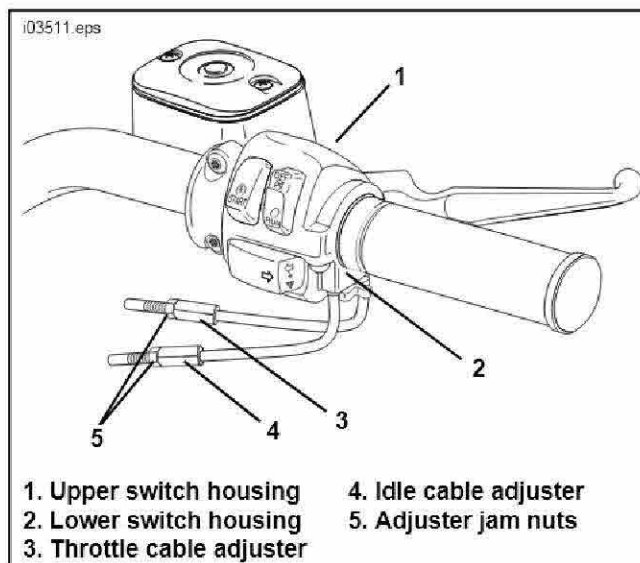

Figure 2. Handlebar Throttle Control
2. See Figure 2. Loosen cable adjuster jam nuts. Screw cable adjusters in until they are as short as possible. This will provide enough slack for easy removal.